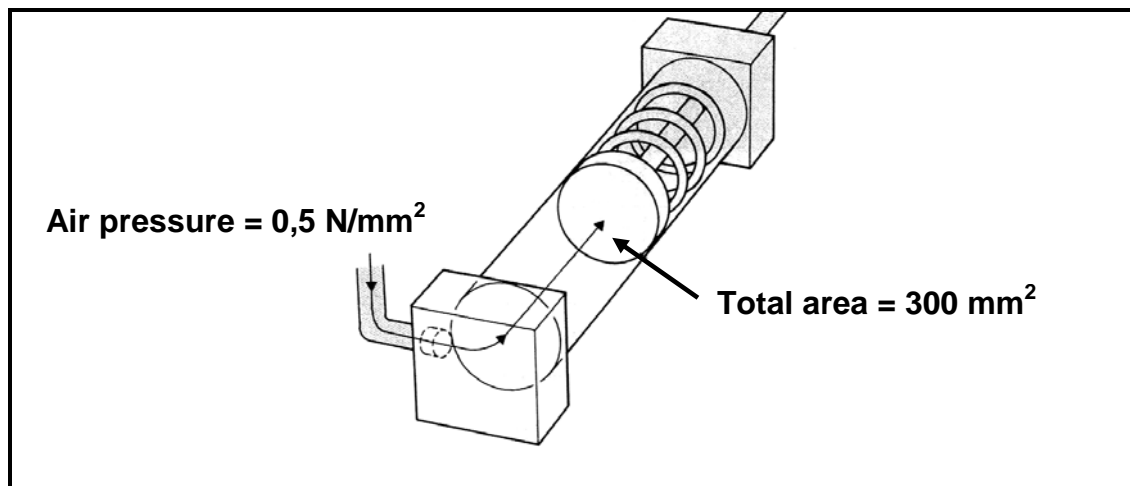

FIGURE 1.6
1.17 How much force is produced by the piston shown in FIGURE 1.6 below if the air pressure is $0,5 \text{ N/mm}^2$?